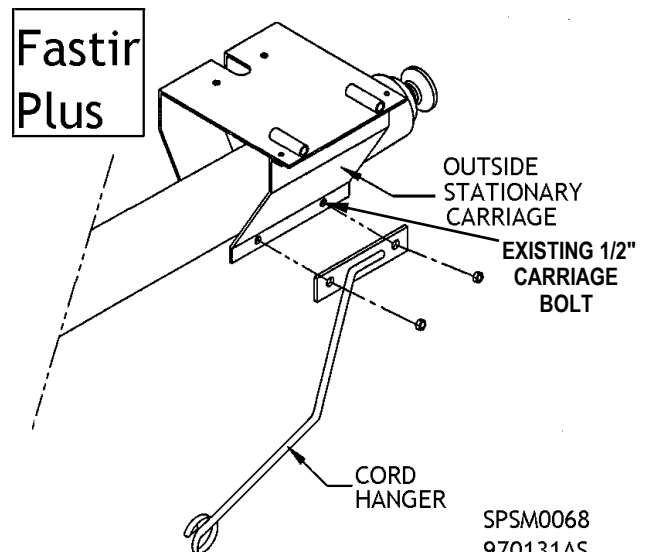

Figure 24 - Cord Hanger Placement on Fastir Plus Unit
- 47.1 **Fastir Plus Only:** Bolt cord hanger to bottom plate of stationary outside carriage using existing 1/2" carriage tightening bolts (double nut). **Figure 24.**